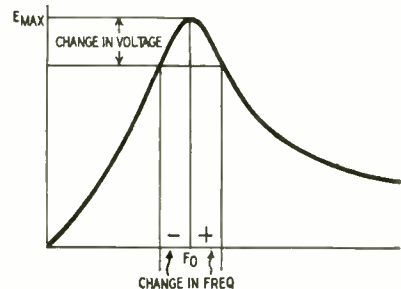

Fig. 2—H.v.-oscillator output curve.
2. The oscillator tuning is also affected by changes in load. The filter capacitor (C_F) and the internal capacitance of the rectifier (C_R) are part of the tank circuit. A change in load current becomes effectively a change in tuning capacitance. The oscillator resonance curve (Fig. 2) is generally quite steep, as high-Q tank circuits are used for efficiency and high output. If the oscillator is normally tuned to the peak of the resonance curve, the detuning effect of a change in load will cause a large drop in r.f. voltage and a decrease in the rectified output.